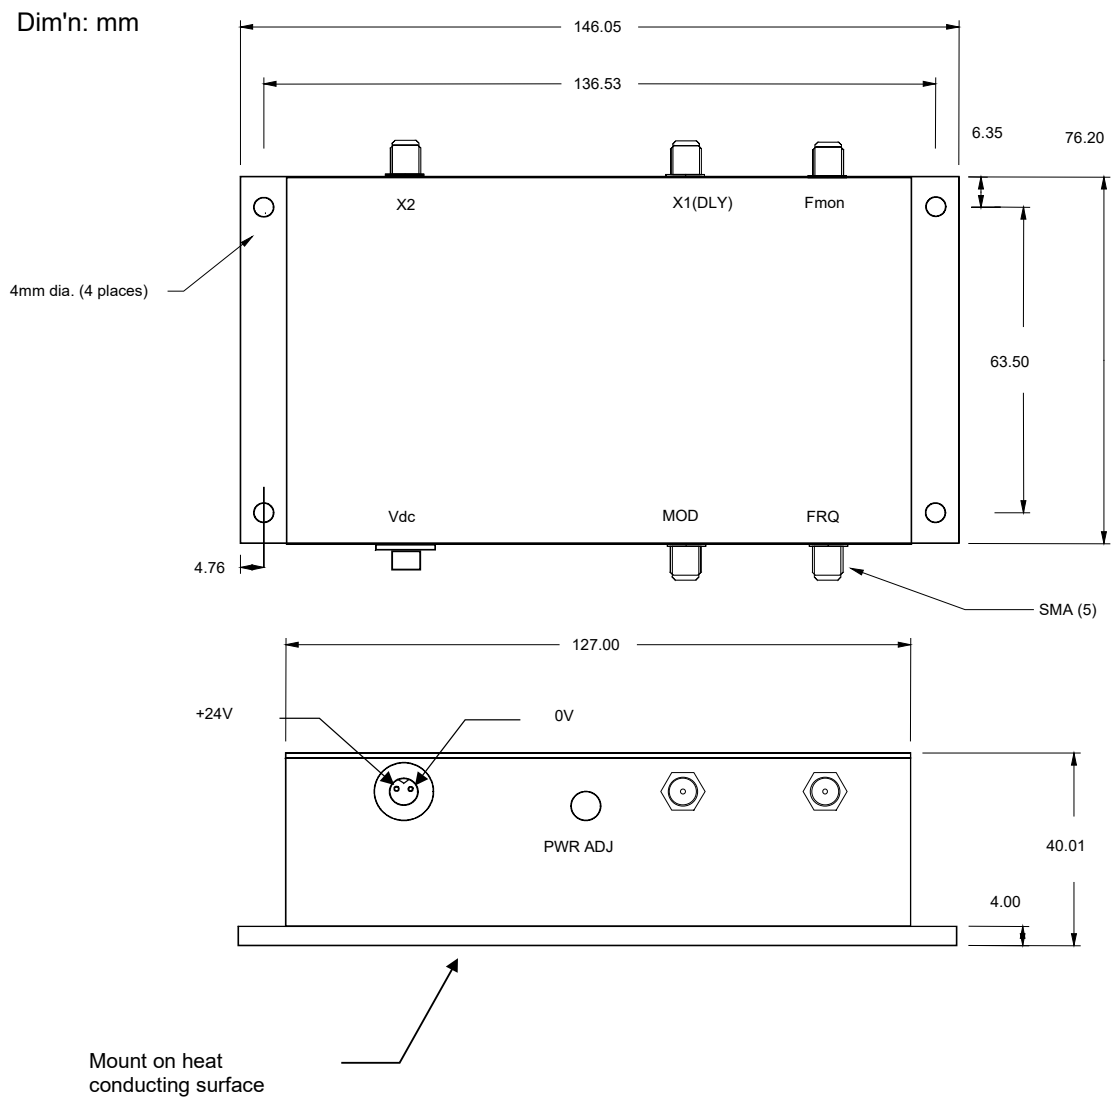

Figure 1, DA134 driver
The DA134-p-xxx Modulator/Deflector Driver, figure 1, is a modular, dual output RF power amplifier specifically designed to operate with Isomet acousto-optic devices such as the LS110A. The driver accepts a frequency input in the order of -6dBm (e.g. from the Isomet iDDS frequency synthesizer) and provides phase delayed RF outputs suitable for beam steered acousto-optic deflectors. The driver also accepts an analogue modulating signal at baseband video frequency and provides a double-sideband amplitude modulated RF output to the acousto-optic deflector. A summary of the DA134 driver specification is shown in the following table:
- a. Install the D134 Driver on a heat sink as shown in Figure 1. Use heat conducting compound between the Driver mounting face and the heat sink.
- b. With no d-c power applied, connect the + 24Vdc line to the 2-pin DC connector as shown in Figure 1. DO NOT APPLY POWER UNTIL THE LOAD IS CONNECTED.